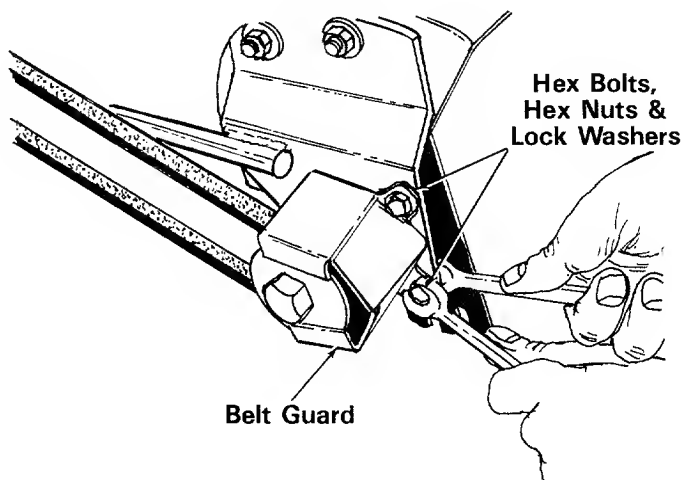

FIGURE 22
2. Remove the belt guard at the spindle assembly by removing two hex bolts, lock washers and hex nuts. See figure 22.